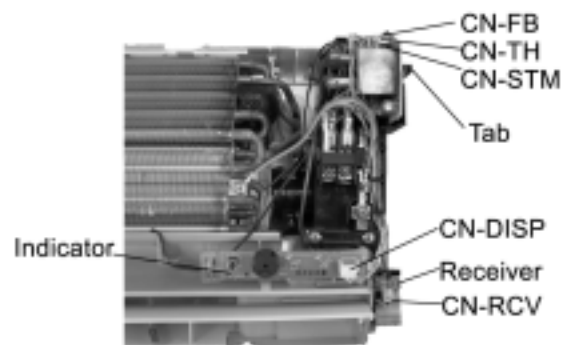

Fig 3
3. Release CN-FB , CN-TH, CN-STM connectors on the electronic controller and CN-DISP on the indicator, CN-RCV on the receiver. (see , **Fig 3**)
4. Pull the electronic controller outward gently by releasing the tab on the right side. ( **Fig 3**)